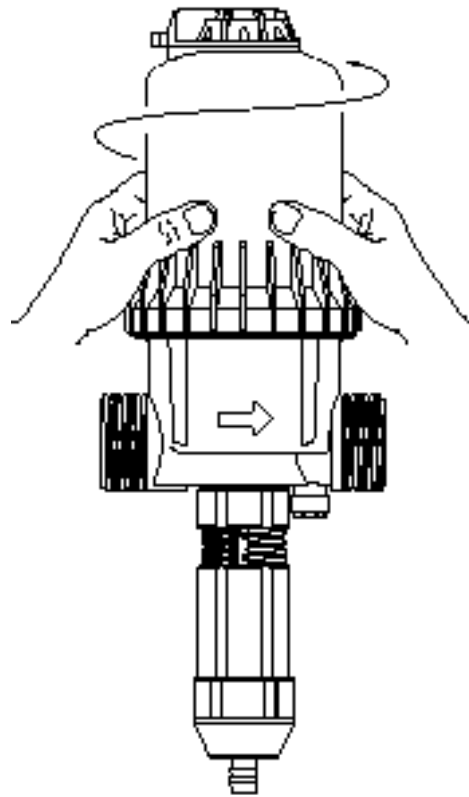

Fig. 20
- a/ Unscrew the bell housing by hand and remove it (**Fig. 20**).